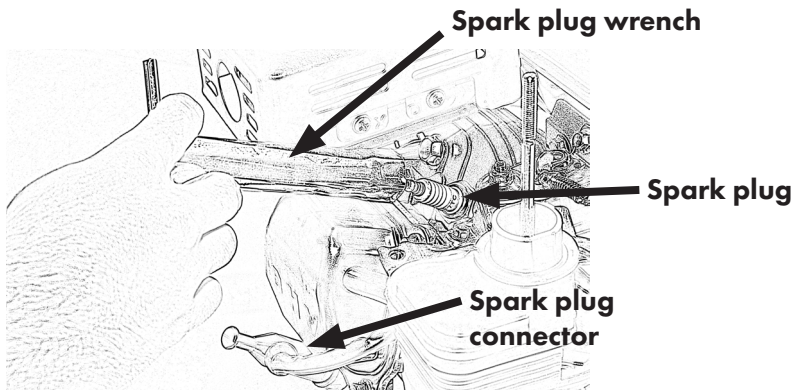

Figure 23
- Remove the spark plug cap and loosen the spark plug using the spark plug wrench, Fig. 23.